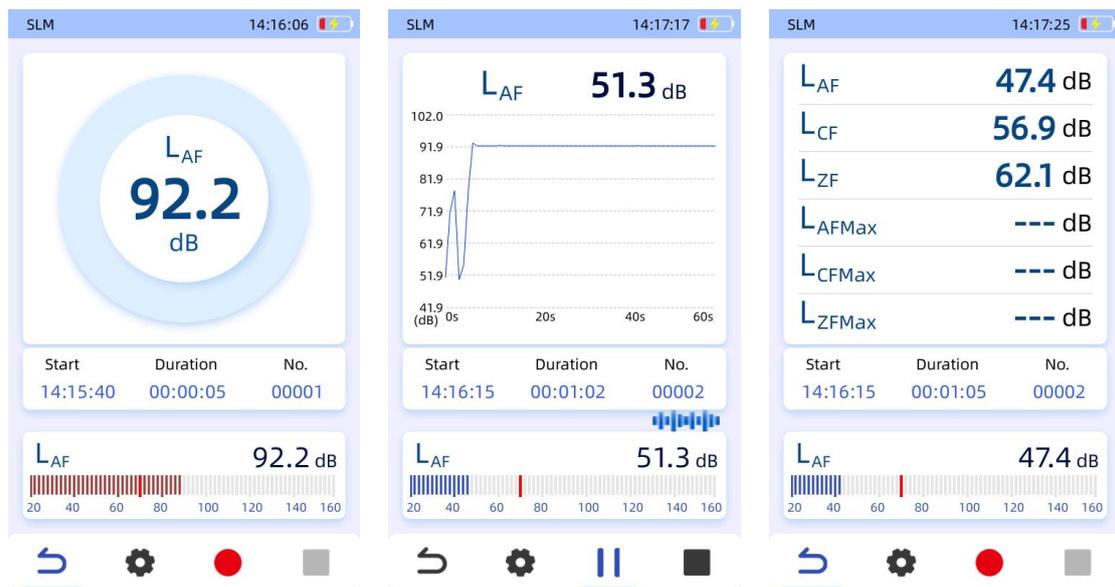

Fig 6.10 Single Value
As shown in Figure 6.10, this is the measurement interface for the sound level meter, currently displaying the measurement in "Single Value Mode" for LAF.
**Single Value Mode:** Displays a single measurement value, as shown in Figure 6.10.